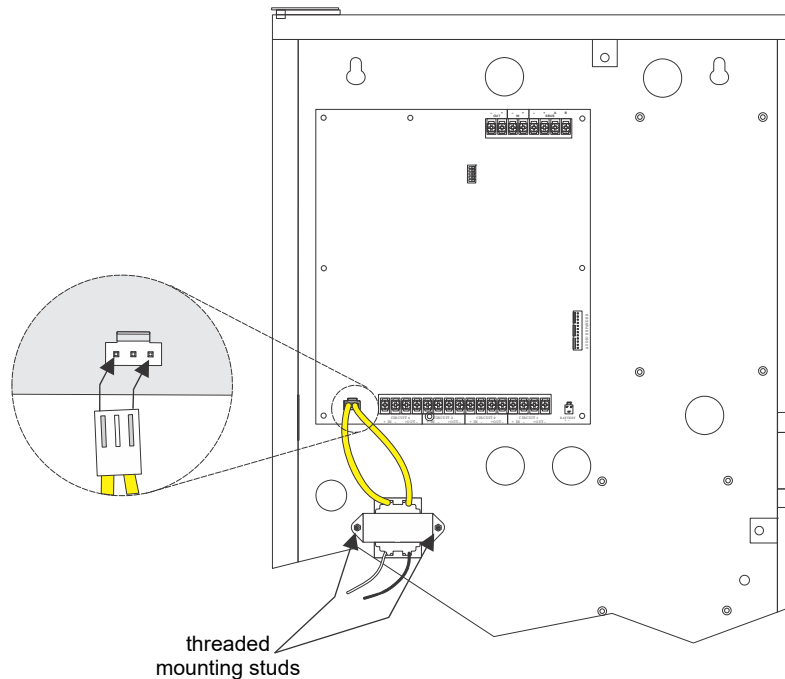

Figure 4.28 Transformer Mounting
3. Mount the transformer onto the threaded cabinet transformer mounting studs using the supplied locking hex nuts as shown in Figure 4.28.